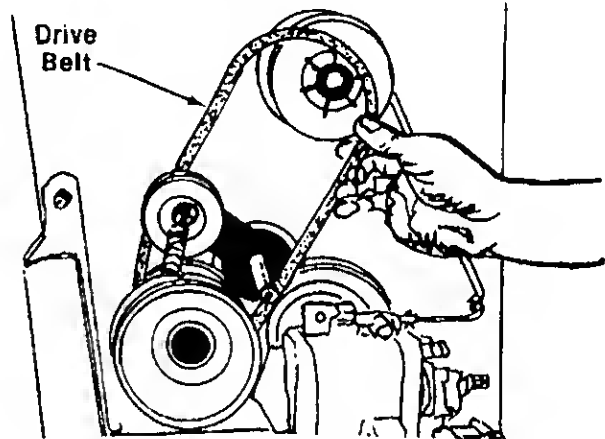

FIGURE 27.
11. Remove and replace the "V"-belt. See figure 27.